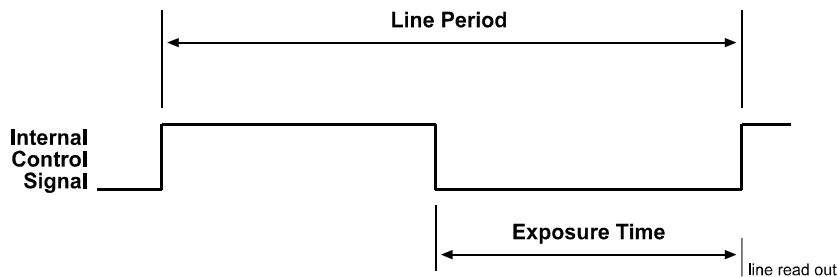

Figure 3-7: Free-run, Programmable Mode
- In **free-run programmable mode**, the pixels are exposed and charge is accumulated when the internal control signal is low. The lines are read out and transferred on the rising edge of the internal control signal (see Figure 3-7).